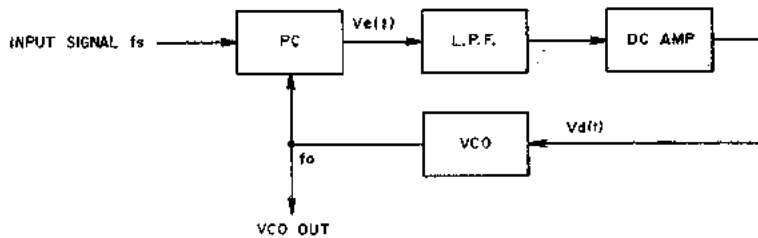

Fig. 13 PLL Circuit
PLL circuit is a kind of feedback circuit and is comprised of a Phase Comparator (PC), a Low Pass Filter (LPF), a Direct Current Amplifier (DC Amp.) and a Voltage Control Oscillator (VCO) as shown in Fig. 13. The PC compares input signal F_s and VCO oscillator output and generate the difference in signal voltage $V_e(t)$ proportionately to this phase deviation. This $V_e(t)$ passes LPF and the DC Amp. and becomes control voltage. This control voltage supplied to VCO and VCO oscillation frequency is DC controlled. When there is no input signal F_s , because there is also no $V_e(t)$, control voltage $V_d(t)$ becomes zero, and VCO maintains a *Free-running oscillation frequency. When a signal enters, VCO oscillation frequency F_o is controlled to narrow the difference between F_s by means of feedback as described above, and the PLL circuit assumes a synchronous condition. This is referred to as input signal lock. (In case the difference between F_o and F_s is too large, the differential signal frequency becomes high and is reduced at the LPF. However, because the VCO control voltage does not change, PLL will not stay within the *lock range). Because of the ability of the signal interference removing LPF to accumulate the previous voltage in case the PLL deviates from within the lock range due
On the other hand, the difference signal of both (L-R) is changed to high frequency through the use of the sub carrier, and is referred to as the sub channel signal. The carrier is further frequency modulated and sent to the FM stereo transmitter. Accordingly, for composite stereo signal demodulation, the sub carrier used for demodulation at the transmitter must be the same uniform 38 kHz signal as the frequency and phase. If the 38 kHz waveform is asymmetrical, channel separation will become poor. At the PLL employed MPX stereo demodulator circuit, as shown in Fig. 13 first a 76 kHz signal is oscillated and when this passes the divider, a symmetrical 38 kHz signal is obtained.